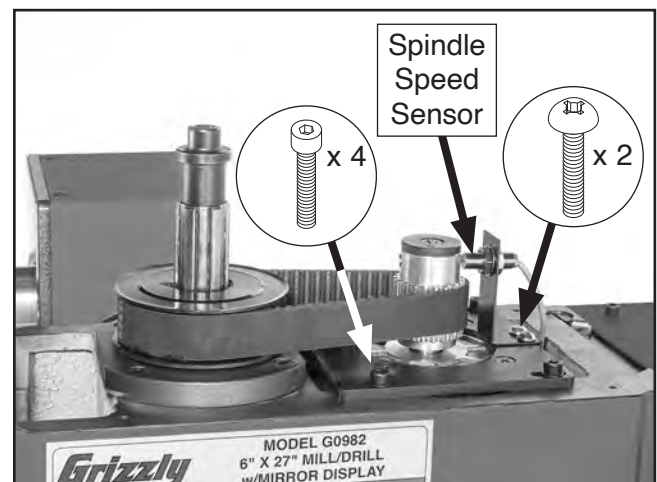

Figure 69. Location of belt removal components.
4. Remove (2) Phillips head screws shown in **Figure 69** to remove spindle speed sensor from motor mount.
5. Remove (4) cap screws shown in **Figure 69** and push motor pulley toward spindle pulley to remove belt tension.